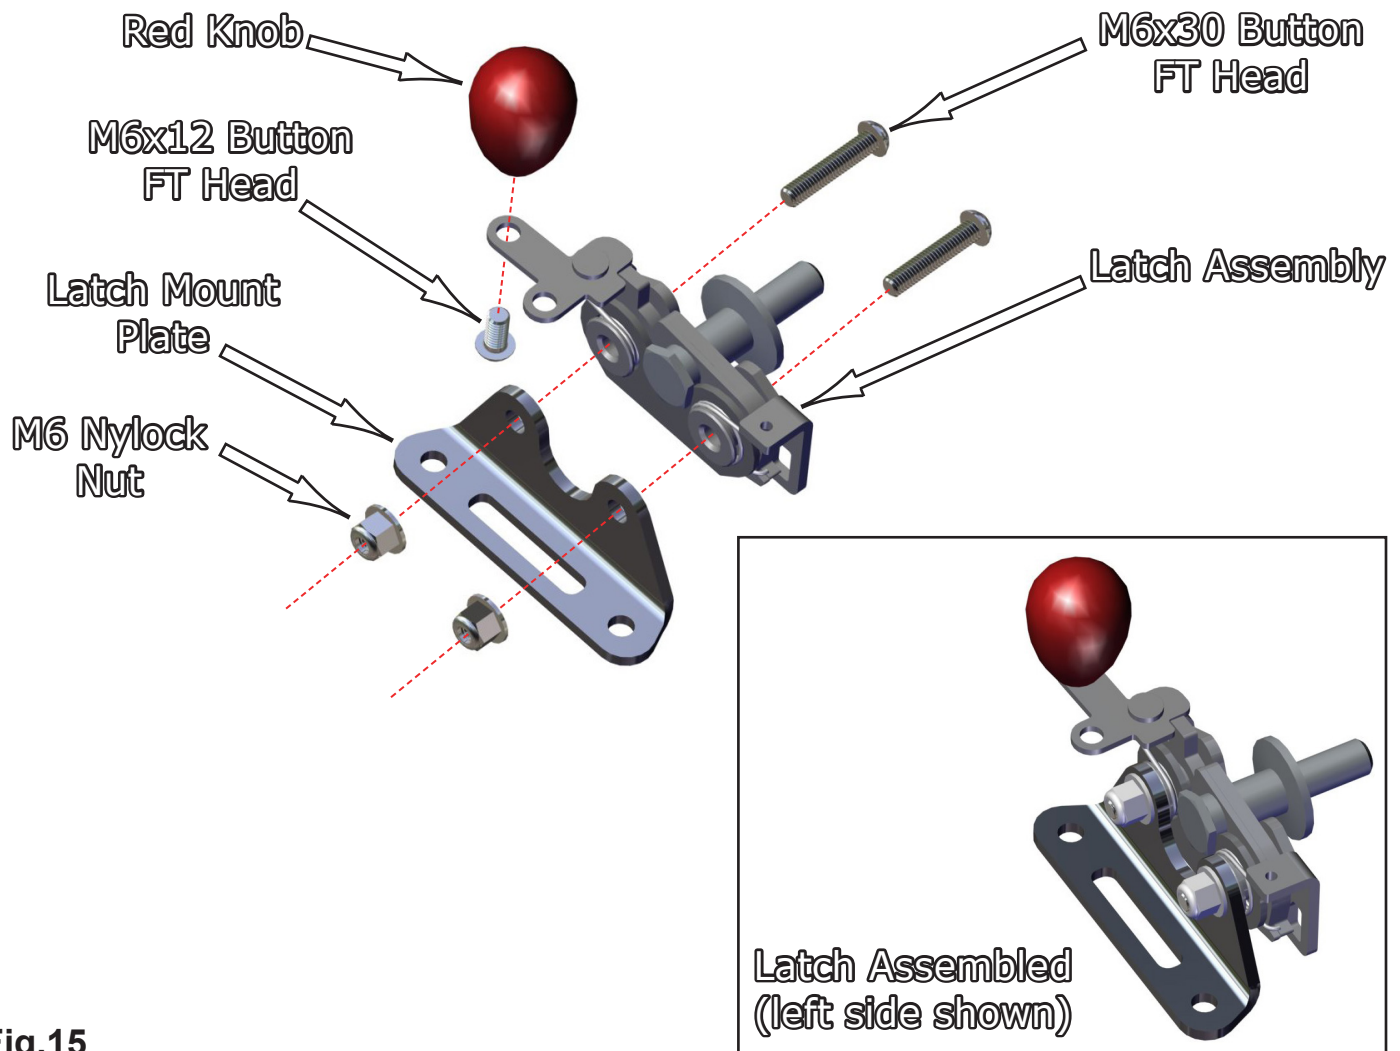

Fig.15
15. Now you are ready to install the **Door Latch Assembly** to the Door. However, you need to assemble the latch before installing it. Below shows the components in your kit to assemble together. Assemble and tighten **Nylock Nuts** securely. See **Fig.15**.